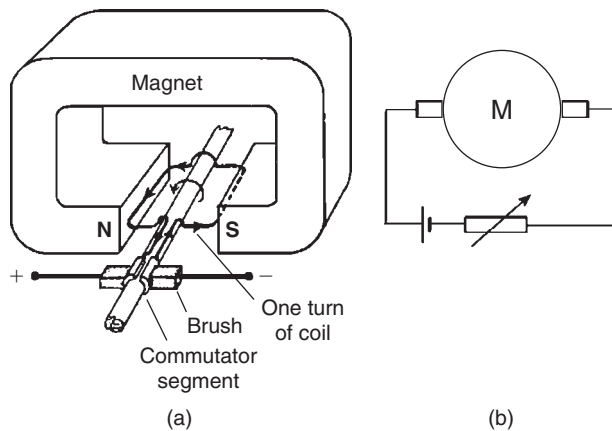

Figure 11.1 (a) Permanent magnet motor principle, and (b) symbol and motor circuit with current controller
The d.c. permanent-magnet motor, whose symbol and typical connections are illustrated in Figure 11.1(b), is used extensively in equipment that needs mechanical actions, such as video recorders and compact disc (CD) players. As the name implies, the motor uses a rotating armature with a winding connected through a commutator, with a field supplied by a permanent magnet. Figure 11.1(a) shows a simple example with a one-turn rotor. We can think of the motor as a transducer whose input is electrical and whose output is mechanical. Miniature general-purpose d.c. motors, using permanent magnet fields, can be controlled by the output from a comparatively low-output semiconductor amplifier. Typically they have voltage requirements of 6–12 V and currents of 200–400 mA. Small electric motors of this type can be used in models, rotating signs, display systems and to some extent in robotics.